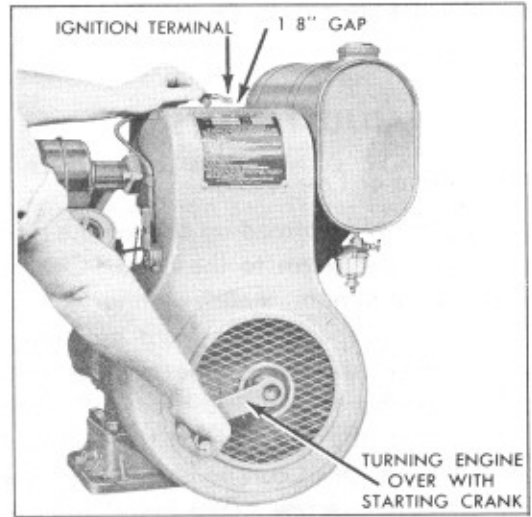

Fig. 7
A. TO CHECK FOR SPARK (See Fig. 7.)
Hold the ignition cable terminal about $\frac{1}{8}$ inch from any metal part of the engine (Fig. 7). Keep hand on insulated part of cable to avoid a shock. Turn motor with starting crank or sheave and if spark jumps this gap, the entire ignition system is all right up to the spark plug.